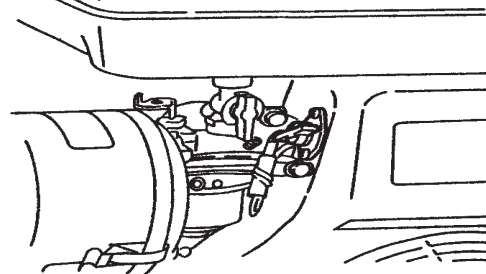

Figure 15. Engine ON/OFF Switch (OFF)
- After the engine *cools*, turn the engine ON/OFF switch to the "OFF" position (Figure 15).